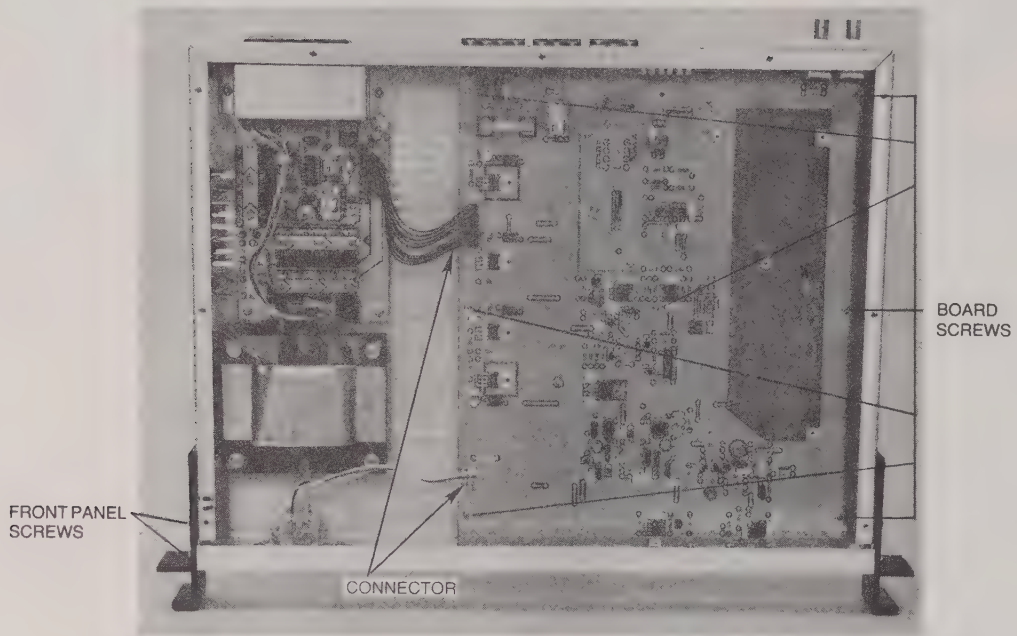

Figure 5-4. Changing Data Rate – Transmitter
**CHANGING DATA RATE.** To change the MA-23DR operating data rate (to any of T1 – 1.544 Mbs, T1C – 3.152 Mbs, T2 – 6.132 Mbs, CEPT1 – 2.048 Mbs, or CEPT2 – 8.448 Mbs rates), see Figures 5-4 and 5-5. The screws shown on the board must be removed and the wire harness disconnected. The front panel must be removed simply to allow clearance for board removal. Only a screwdriver is necessary.